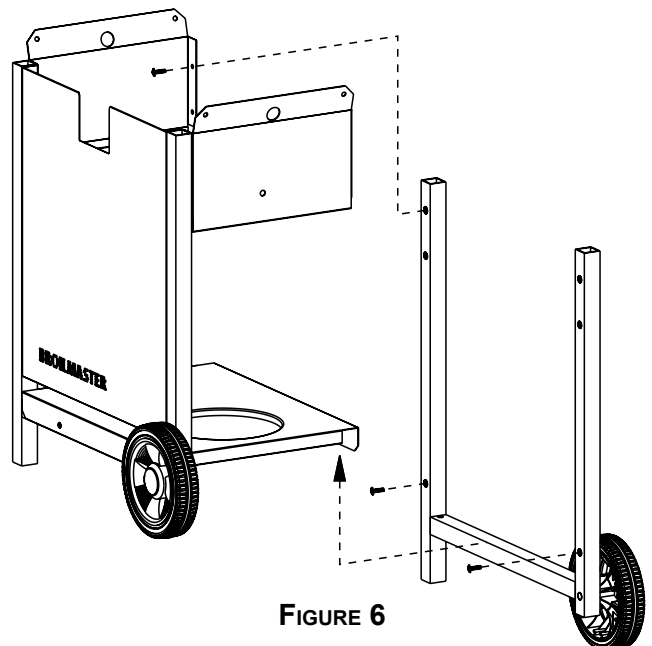

FIGURE 6
Attach each head bracket to second frame assembly with two (2) 1/4-20 x 3/4 Phillips screws. **Attention:** Insert two (2) 1/4-20 x 3/4 Phillips screws into bottom of second frame assembly to prevent the entry of rain. Figure 6